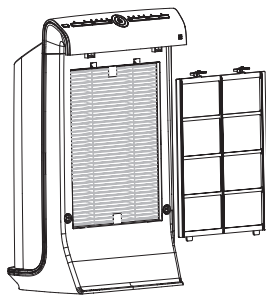

Fig 5
5. Next, put back the pre filter into the air purifier by putting your fingers at the two locks again. Press slightly and make sure it is fixed properly. (Fig 5)